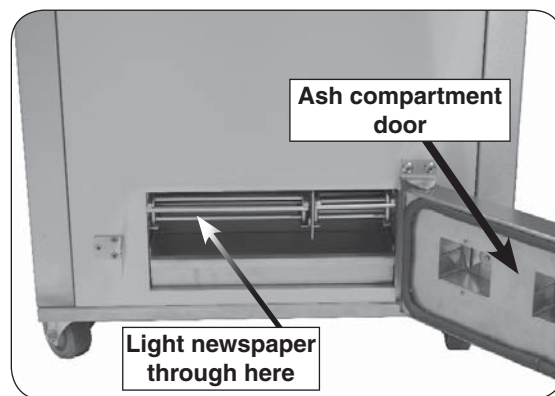

Fig. 9-2
5. Unlatch and open the ash compartment door located on the bottom rear of the smoker (see Fig. 9-2).
6. Use a lighter or long match to light the newspaper through the ash compartment. The flame should easily rise up through the charcoal grid and ignite the paper (see Fig. 9-2).